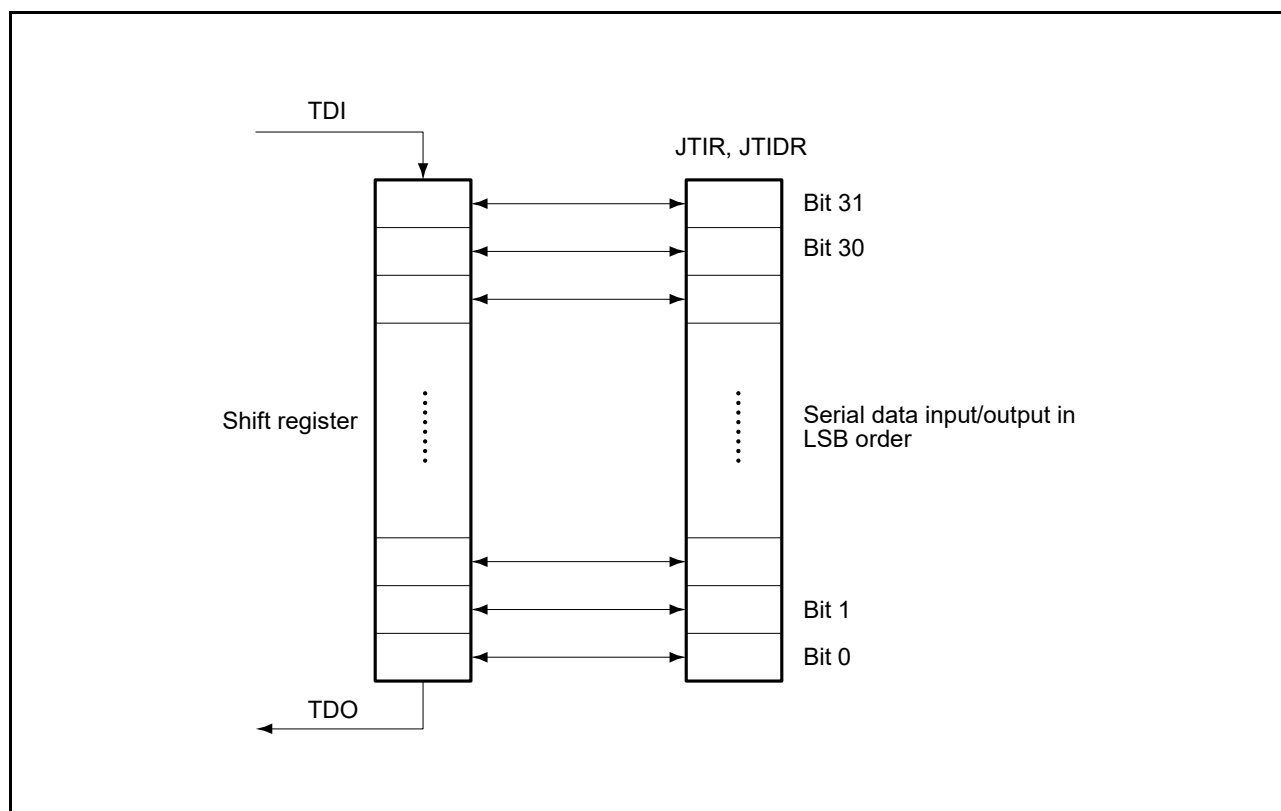

Figure 4.3 Serial Data Input/Output
- (1) Pin serial transfer, data are input or output in LSB order (refer to Figure 4.3).